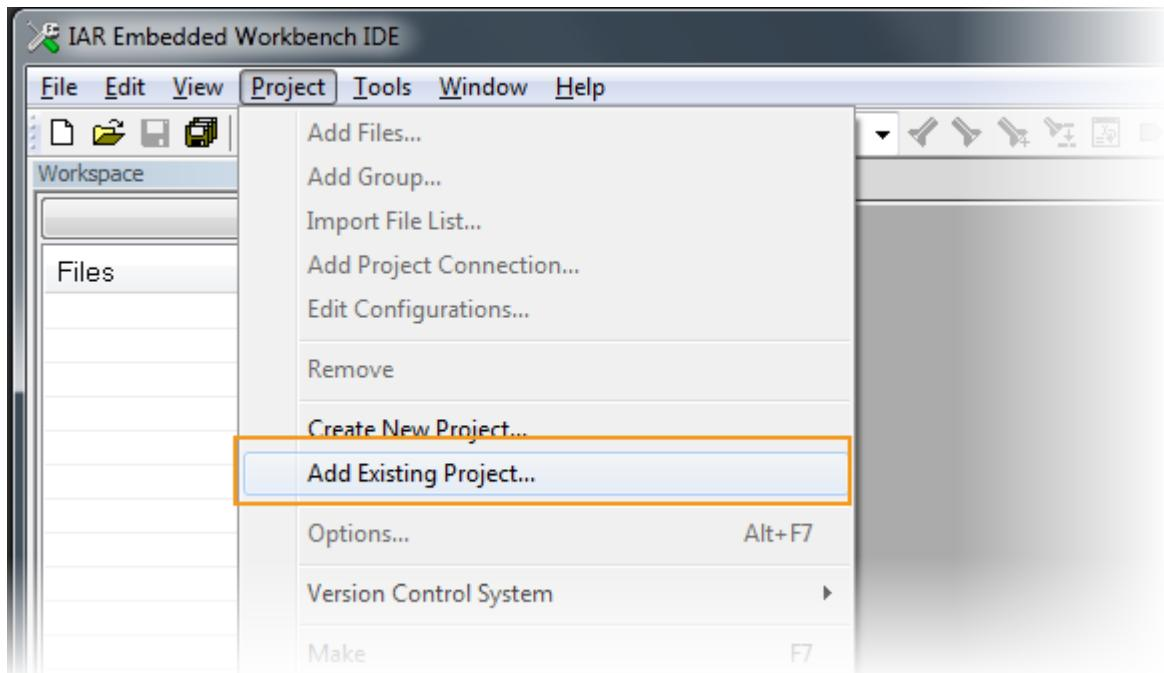
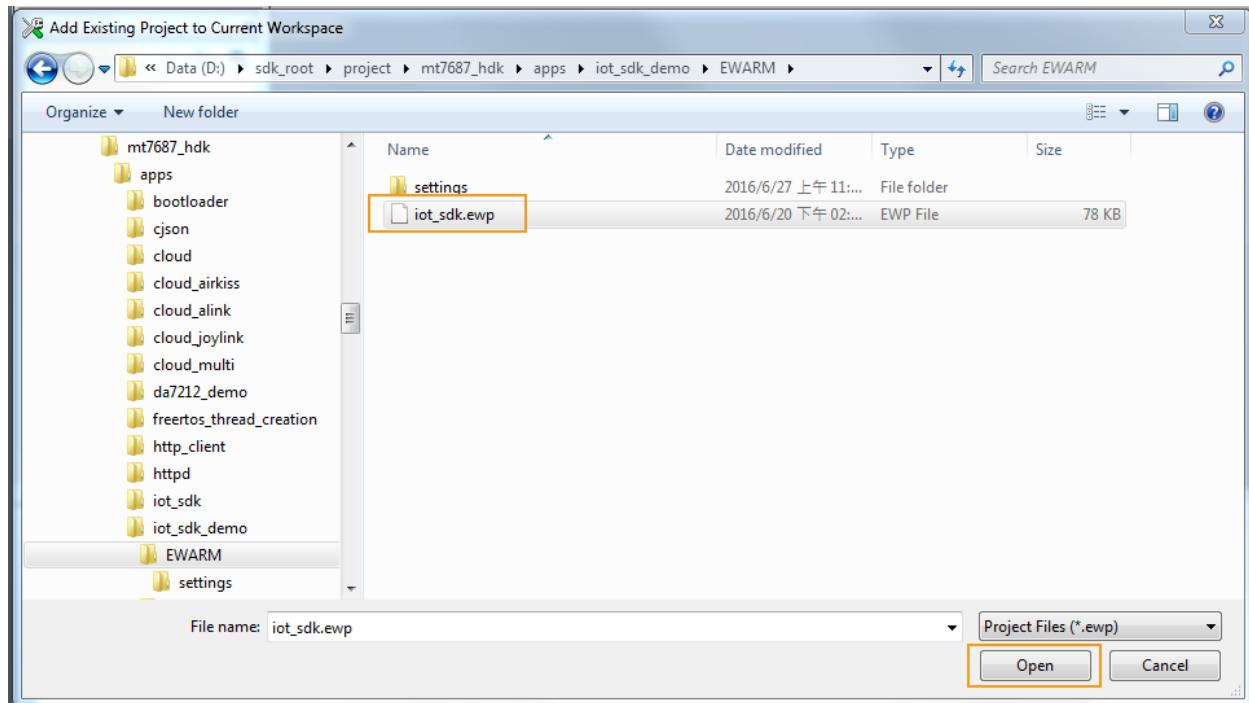

Figure 63. Importing the preconfigured project
Figure 64. Adding an existing project
- Navigate to **Project** (see Figure 63) in the IDE's main menu, then **Open Project**. Click **Open** to import the project. The project file is named as <project>.ewp, such as the one shown in Figure 64.